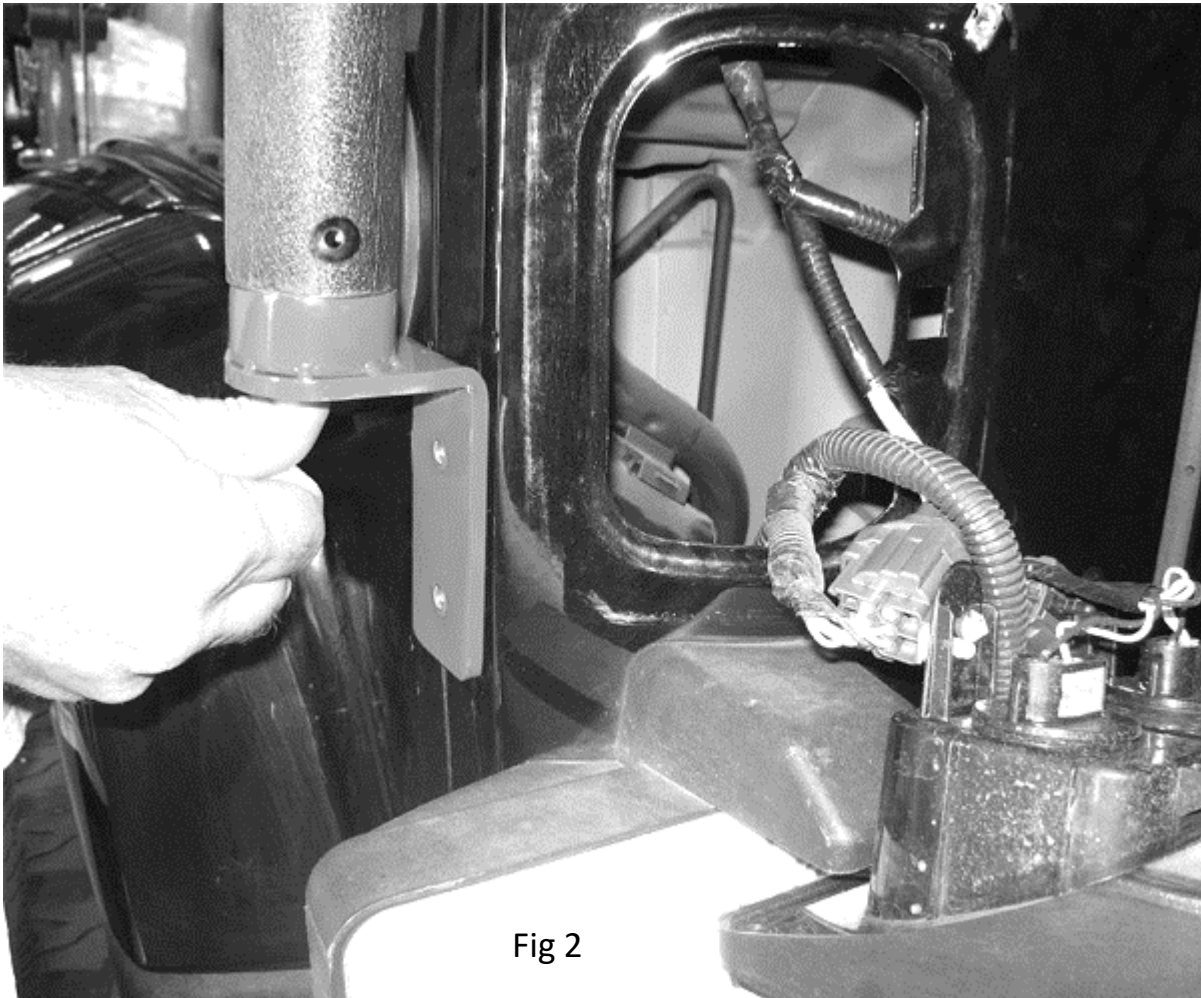

Fig 2
**Step 2:** Select the (2) Short Bottom Brackets and apply Peel and Stick Foam Gasket Material (G) to the back of the 2-hole mounting tabs. With assistance, hold the rear section of the Roof Rack up and attach the Short Bottom Bracket to the Rear Top Leg Section using the included (2) 8mm x 65mm Allen Bolts, (4) 8mm Flat Washers and (2) 8mm Nylon Lock Nuts (**Figure 2**).